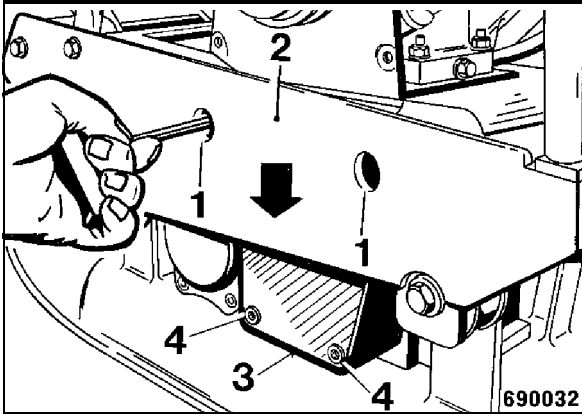

Fig. 40
- Loosen fastening screws 1 (Fig. 40) on the V-belt side.
- Press engine carrier plate (2) down.
- Unscrew fastening screws (1) through the bores.
- Unscrew socket head cap screws (4).
- Remove covering plate (3).
- Turn socket head cap screws (4) in.
- Turn fastening screws (1) in.